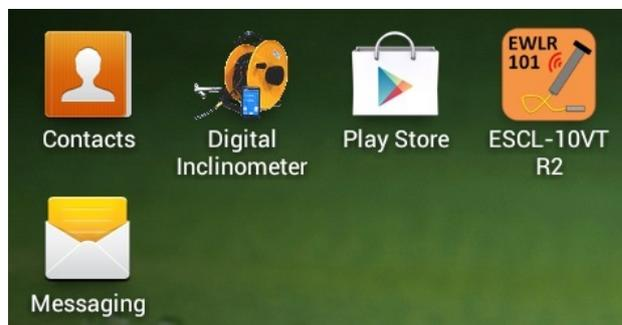

Figure 7-2 Application launcher
- After installing press 'Done' or application can be opened directly by pressing 'Open'. User can open the application through application launcher also. Refer to figure 7-2
- Click on Digital Inclinometer (DI) application icon as shown in figure 7-2.